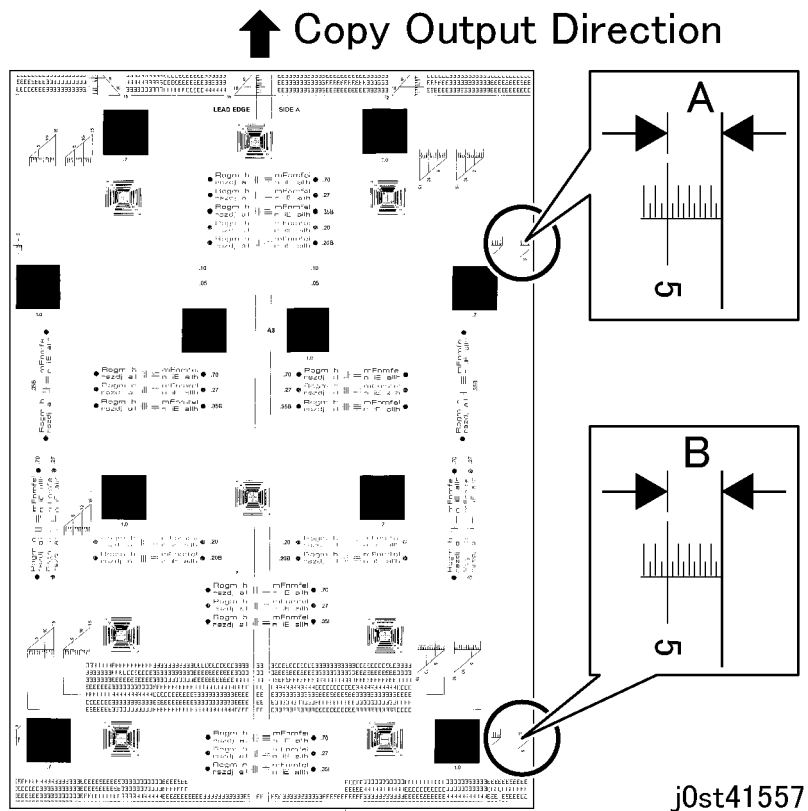

Figure 1 Checking the Lead Skew in the original (j0st41557)
3. Check that the difference in the distance (A and B) between the side and the Edges in the 3 copies is within $0\pm 0.5\text{mm}$. (Figure 1)